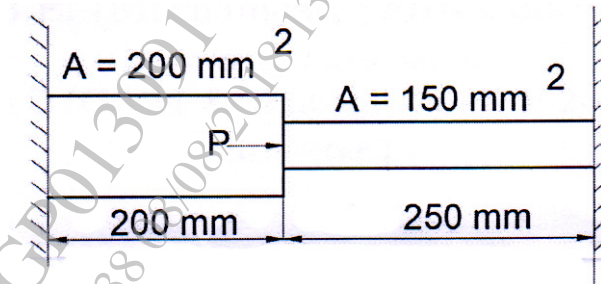

Figure 1 : Q.5
- Q5)** The stepped bar shown in **figure 1** is loaded axially by load $P = 50kN$, the modulus of elasticity of the bar is $0.7 \times 10^5 \text{ N/mm}^2$. Determine nodal displacement, elemental stress and reaction at support. [10]